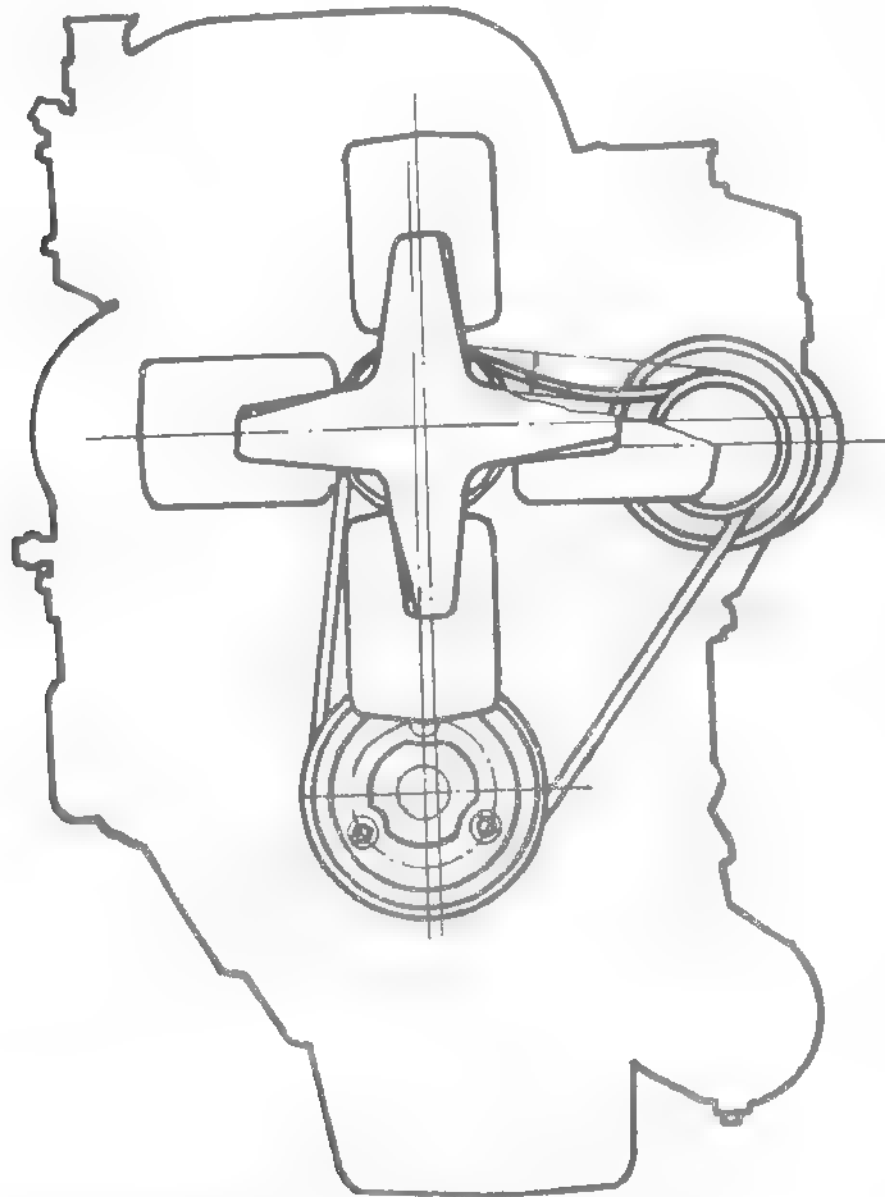

Fig.2.29. CHECKING ELEMENT FASTENING ON D-127 ENGINE
- Press the V-belt, in the area between cooling fan and alternator pulleys (in the upper engine area - see fig.2.29), with a force of about 5 - 7 daN (kg), if the belt tension is correct the belt dip should be of 12 mm. If the dip is more than 12 mm, the V-belt should be tensioned.